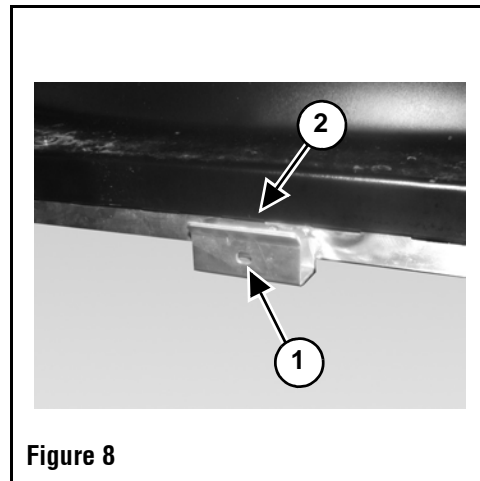

Figure 8
1. Locate the hole (Item 1) (**Figure 8**) in the center mounting position of the hooked hinge.
2. Using a non permanent marker or pencil, mark the outside of the canopy (Item 2) in line with the center mounting position (Item 1) of the hooked hinge. (**Figure 8**)
**NOTE:**The mark on the canopy was placed on (Figure 8)